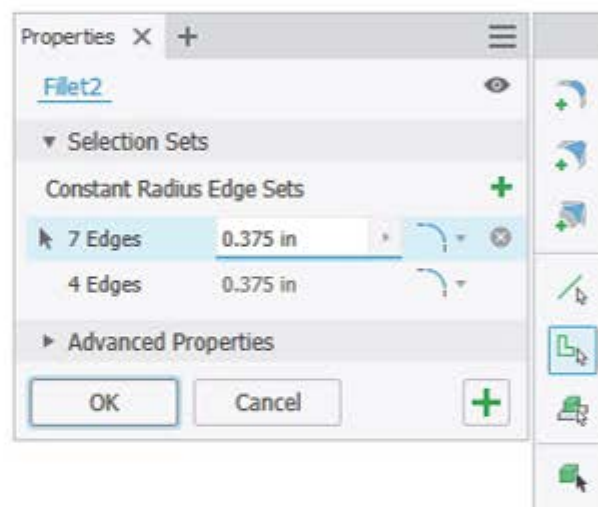

Figure 6–85
7. How many separate Fillet features are listed in the Model browser if you click **OK** to create Fillet2, shown in the Properties panel in Figure 6–85?